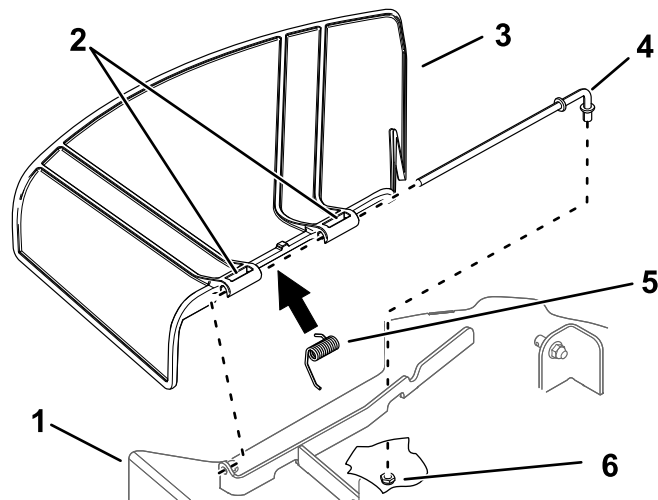

Figure 67
1. Remove the nut (3/8 inch) from the rod under the mower (Figure 67).
2. Slide the rod out of the deck bracket, spring, and grass deflector (Figure 67).
4. Install the new grass deflector (Figure 67).
7. Slide the rod through the second grass-deflector pivot (Figure 67).
9. Secure the rear end of the rod into the mower with a nut (3/8 inch) as shown in Figure 67.